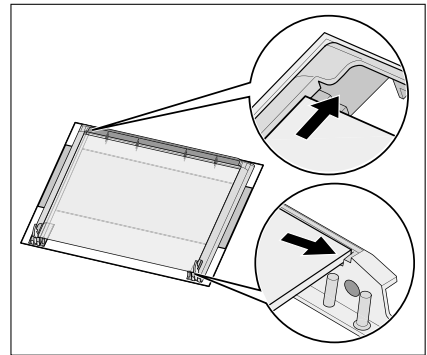

Fig. 34
- c) the uppermost pane must be reassembled as shown in Fig. 34.